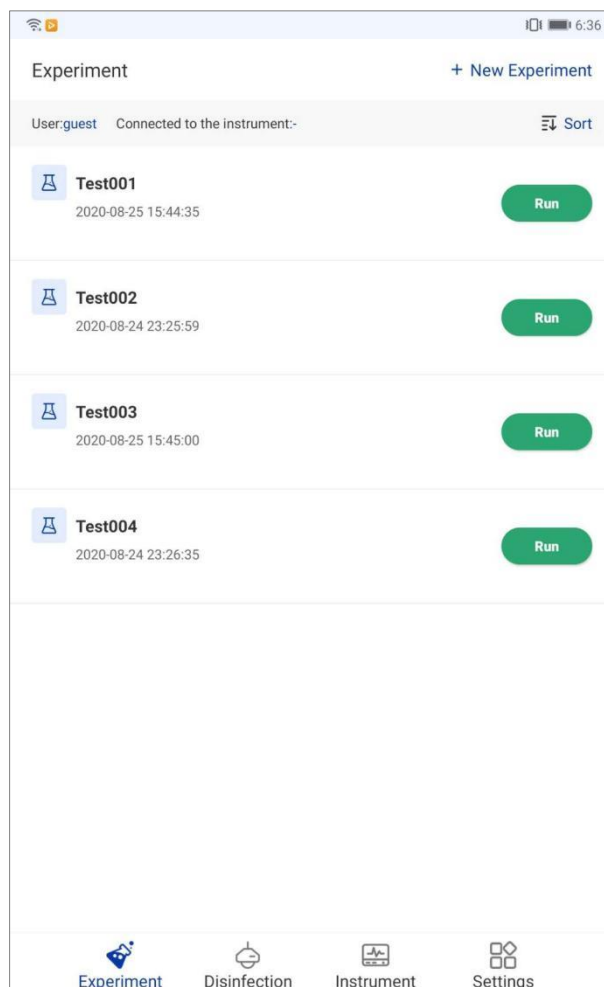

Figure 5-6. Experiment Interface - Delete/Edit Experiment
5. **Delete Test:** select any experiment on the experiment interface and slide it to the left, user can click < **Delete** > to delete current selected experiment, as shown in figure 5-6.
6. **Edit Experiment:** select any experiment on the experiment interface and slide it to the left, click < **Edit** > to edit current selected test experiment, as shown in figure 5-6.
- 2) After creating a new experiment, user can click < **Next Step** > to edit the experiment, as shown in figure 5-6, 5-7 and 5-8. For detail operation instructions, please refer to 5.2.1 Experiment Interface – Edit Experiment.